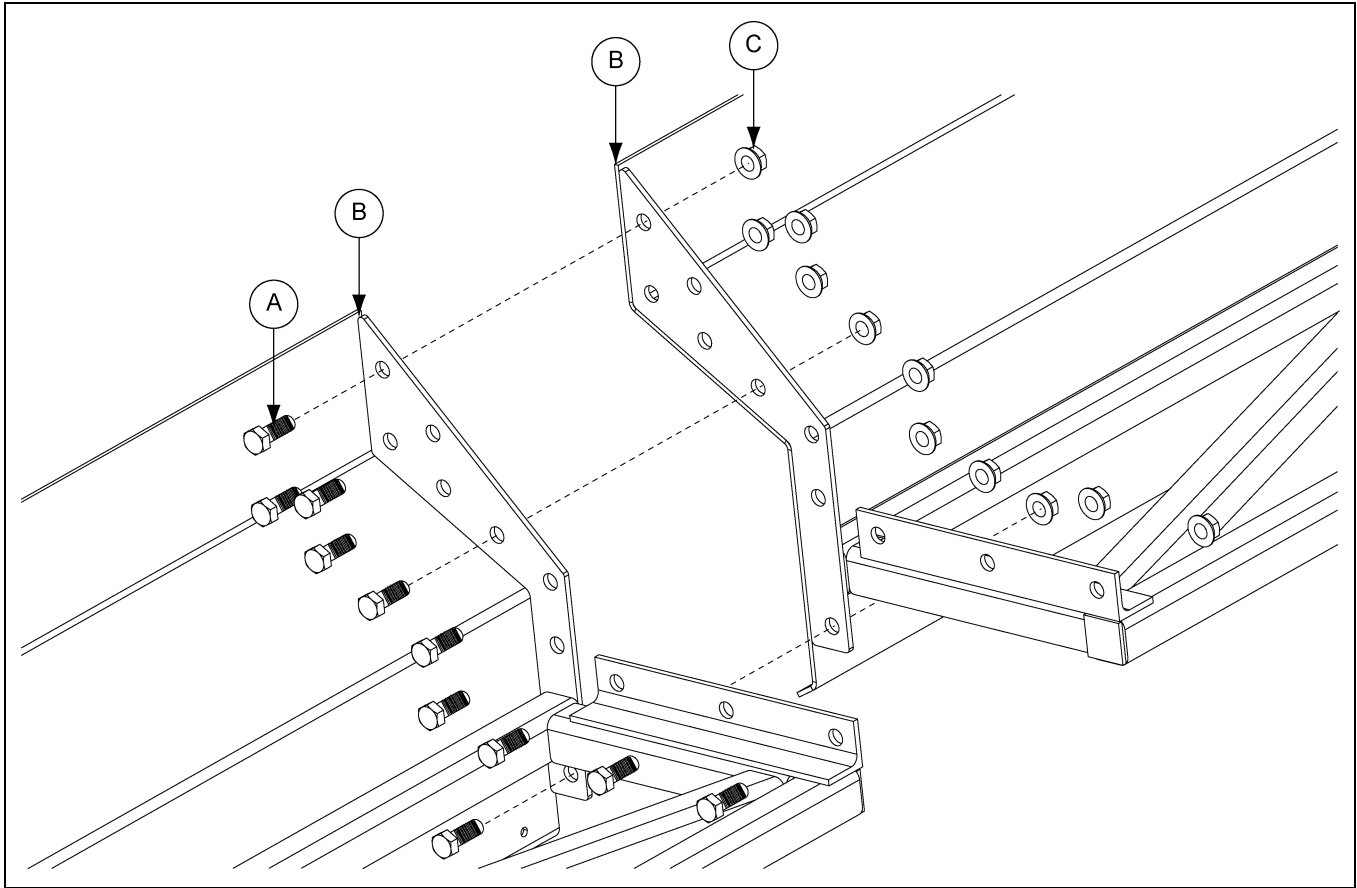

Figure 7E 12" Sweep Shield Connection
1. Attach sweep shields (B) together using hex bolts (A) and flange nuts (C). *(See Figure 7E.)*